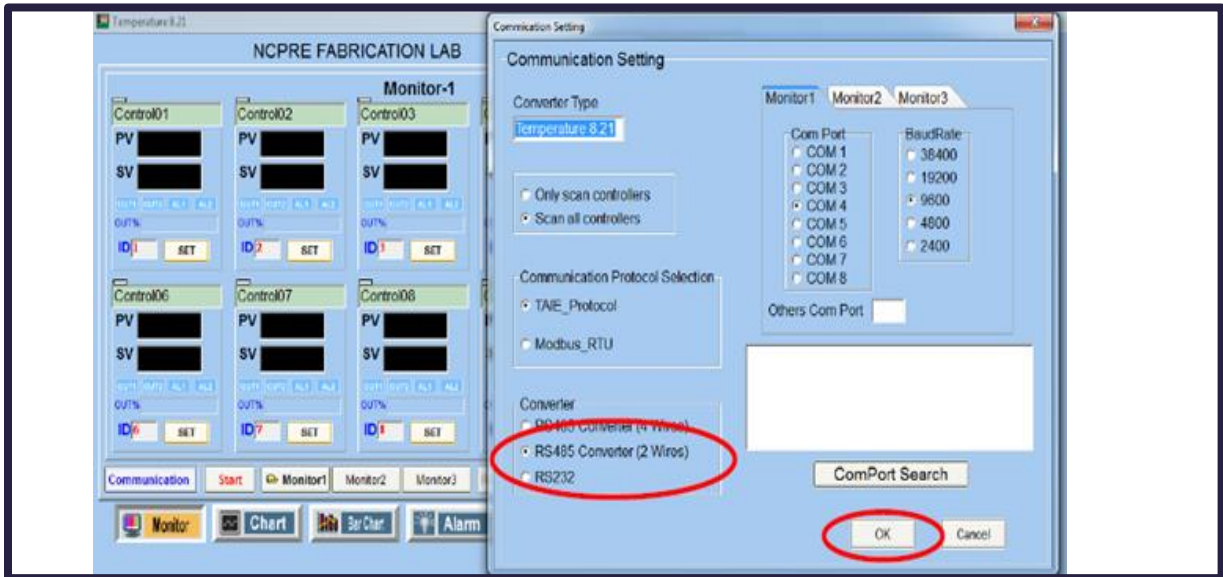

Figure. 16
4. “Communication Settings” window will pop up. Check whether the data is as follows (Figure. 16).